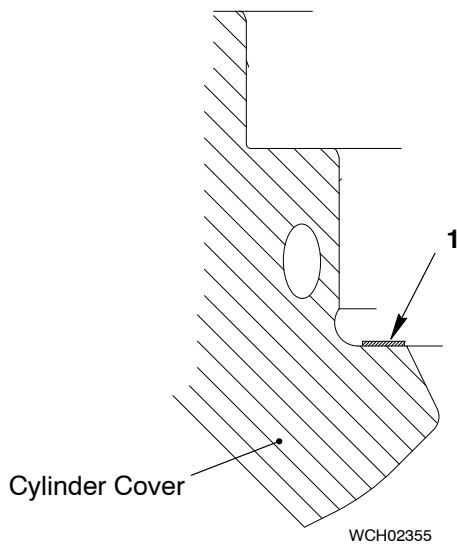
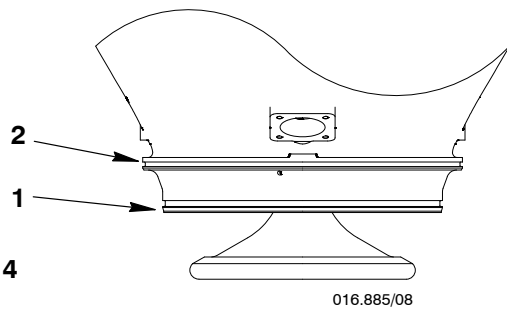

Fig. 3
Fig. 4
- 3) Remove the 2.0 mm metal gasket (1, Fig. 3) from the cylinder cover.
- 4) Clean the 2.0 mm metal gasket (1).
- 5) Examine the 2.0 mm metal gasket (1) for damage. Make sure that the dimension of the metal gasket is correct.
- 6) If the 2.0 mm metal gasket (1) has damage, or the dimension is not correct, replace the gasket.
- 7) Put the 2.0 mm gasket (1) in position in the cylinder cover.
- 8) Put a thin layer of oil on the new O-rings (1 and 2, Fig. 4).